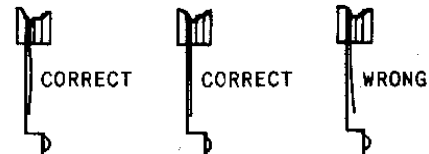

FIG. 6B. COIN SWITCH ADJUSTMENTS.
- Note: It is important that the ENDS of the bracer blades support the short contact blades as shown in Figure 6b.